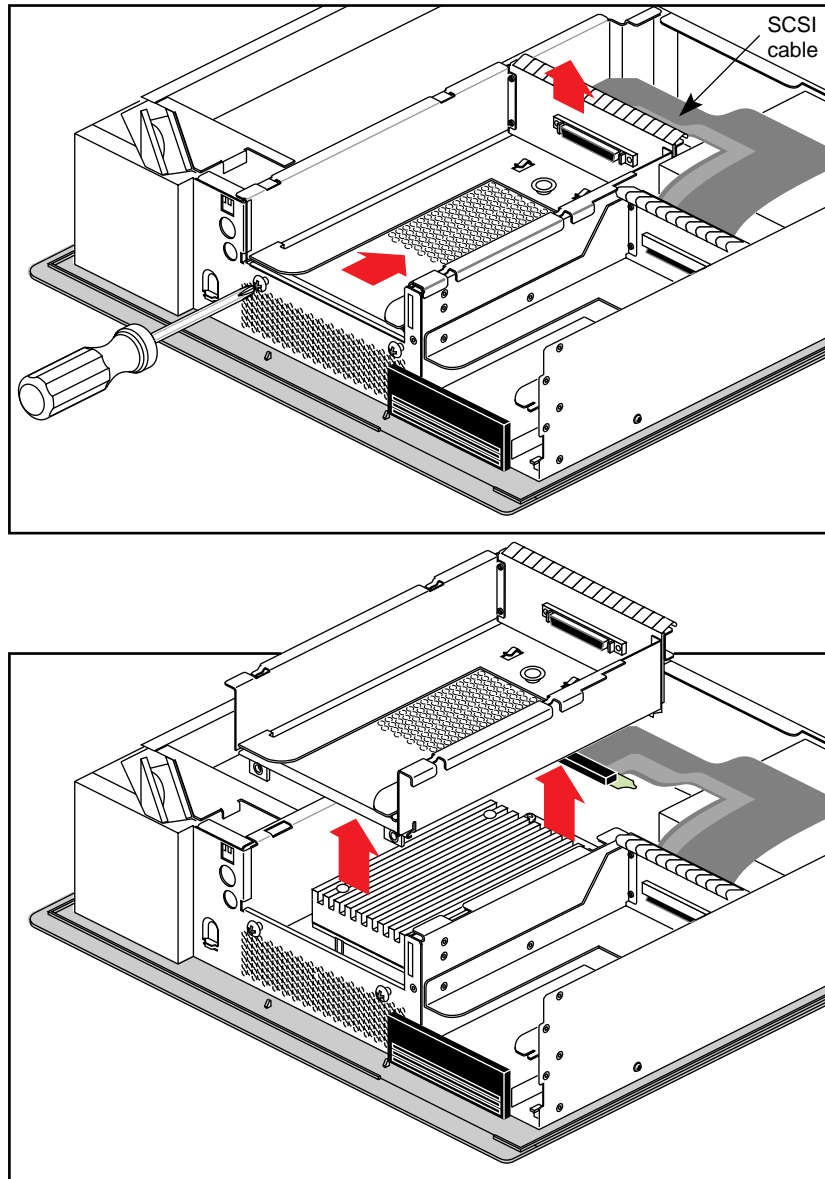

Figure 2-5 Removing the 5-1/4 Inch Drive Tray
3. Undo the captive screws located in the lower front of the tray (see Figure 2-5). Note that if a drive is installed in the tray, you may remove it or leave it in place.